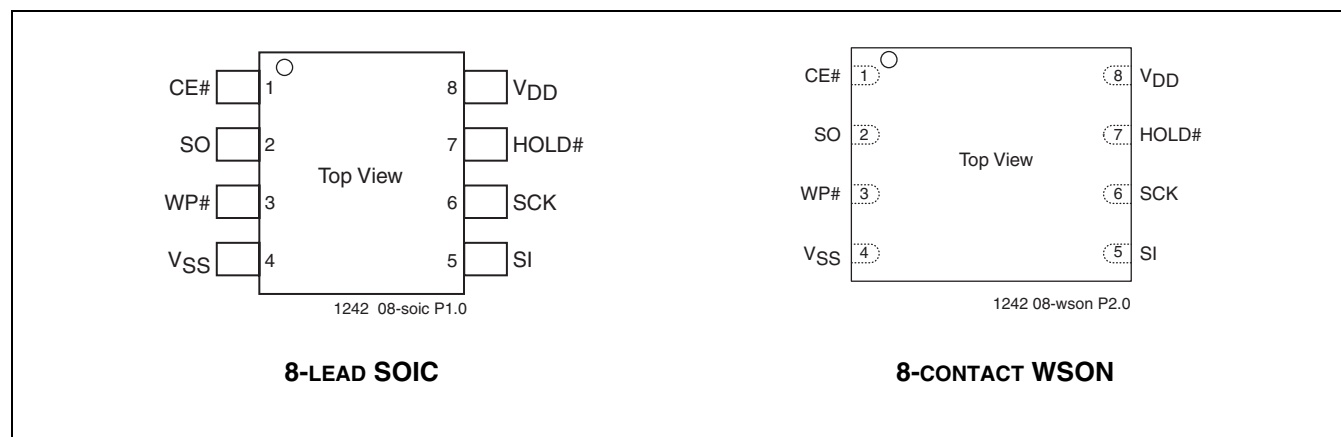

FIGURE 1: PIN ASSIGNMENTS
The SST25LF020A devices are offered in an 8-lead SOIC 150 mil body width (SA) package. The SST25LF040A devices are offered in an 8-lead SOIC 200 mil body width (S2A) package. All densities are offered in the 8-contact WSON package. See Figure 1 for the pin assignments.